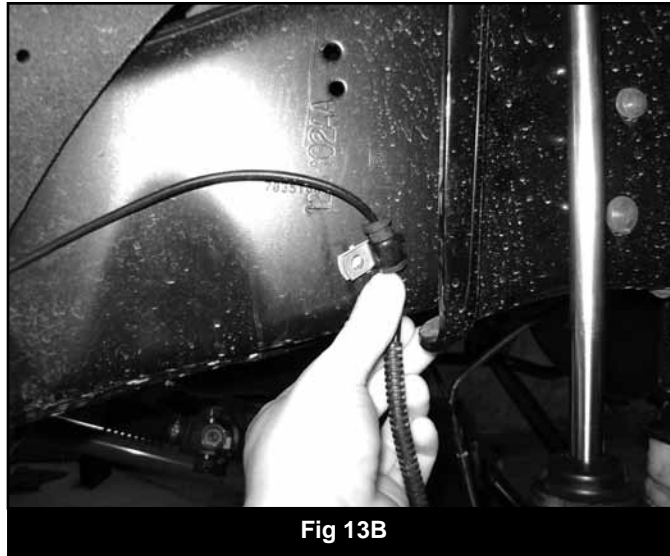

Fig 13B
39. Locate the provided wire clamps, 1/4" self tapping bolts (BP 656) and mountable zip ties (tree on the end). With the suspension at full extension (hanging from shocks) ensure that the ABS line still has some slack from the new mounting point on the frame to the axle. Fasten the line to the frame with the wire clamp and 1/4" self-tapping bolt. (Fig 13B) Attach the loose end inside the inner fender with the mountable zip tie. Note: The rubber collar on the ABS line can be slid on the line using a little silicone spray.